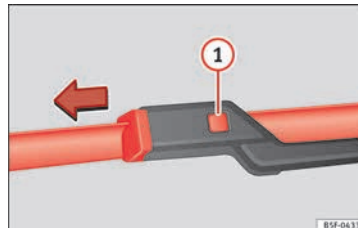

Fig. 73 Changing the windscreen wiper blade.
- Press the securing tab down ① » Fig. 73.